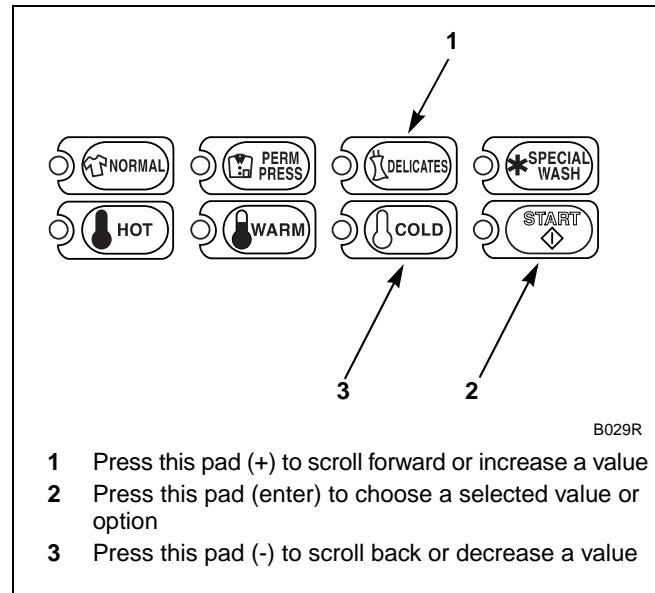

Figure 125
5. Press the DELICATES (+) or the COLD (-) keypad to increase or decrease the century until correct. Refer to *Figure 125*.